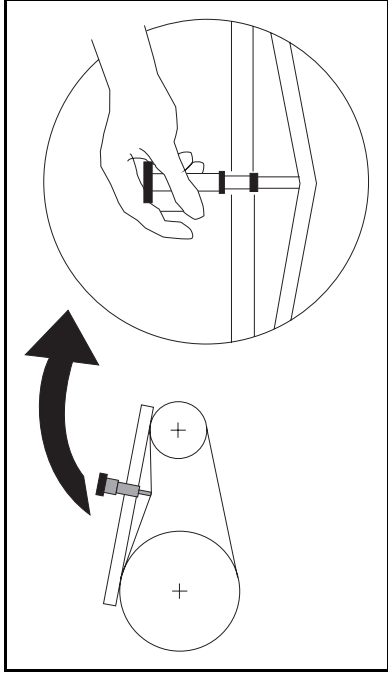

FIGURE 3 (MSSM0215AE)
3. Place a straight edge along the top edge (pulley to pulley) of the belt to be tested. Depress the tension testing tool by sliding the cap against the middle of the belt span until the bottom edge of the lower O-ring aligns with the straight edge as shown in FIGURE 3.